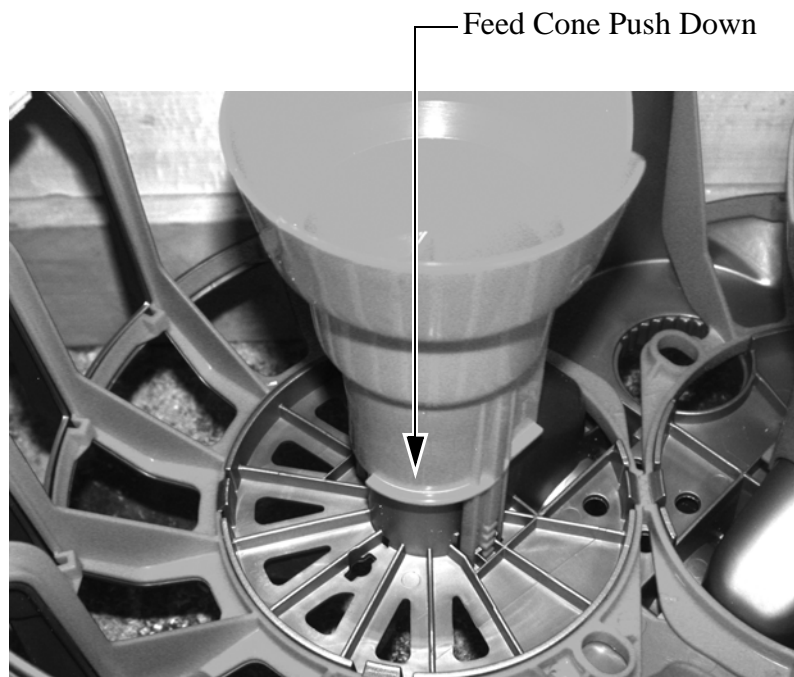

Figure 23. Feed Cone Installation
3. Install two (2) Feed Cones see **Figure 23.**
1. All Pans have two Feed Cones. **Figure 23. on page 17.**
3. All Pans have two adjustable Grills. **See Figure 23.** Be sure that the adjustable Grill Bottom Ring is setting inside the retainer post in Pan.